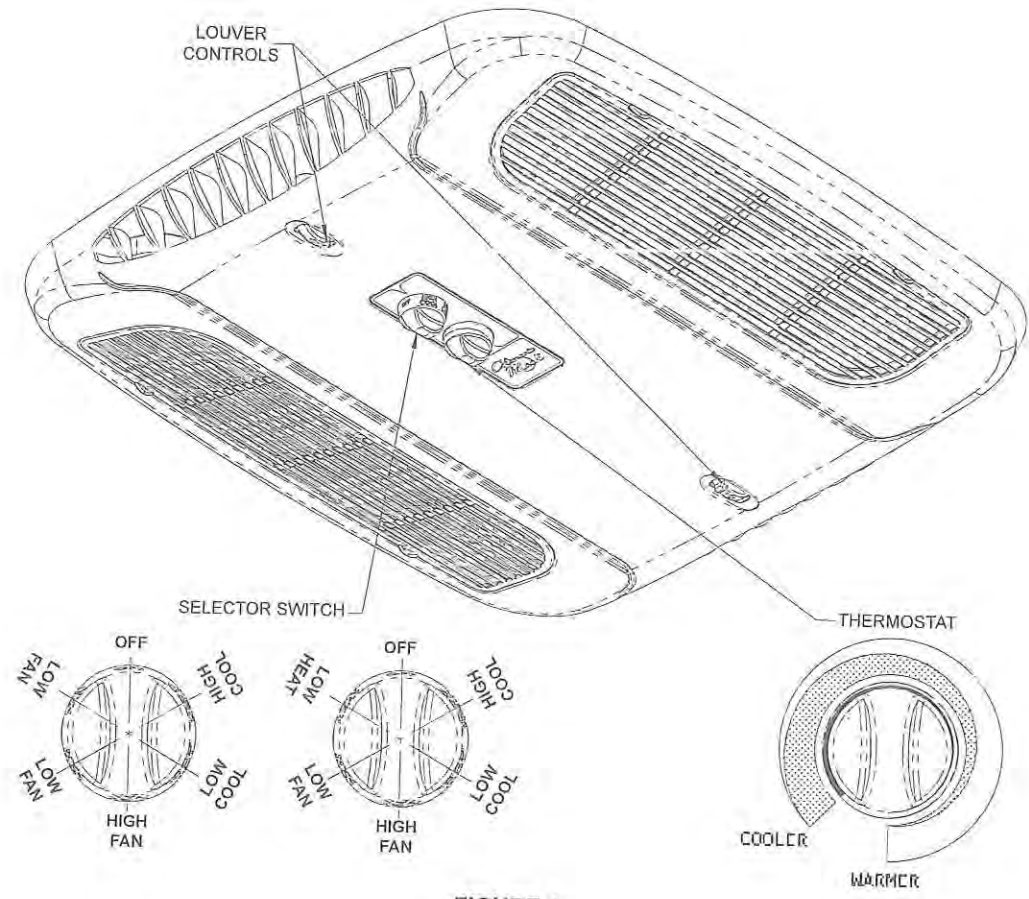

FIGURE 1
V. For Air Circulation Only (Refer to Figure 1, page 9).